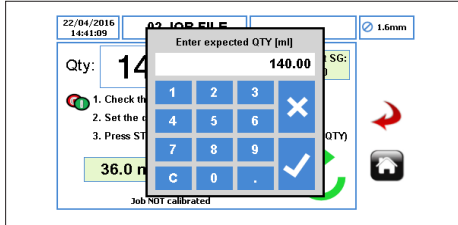

Figure 41 Enter Expected Quantity
- ▶ Select the quantity field (QTY) as per *Figure 41*.